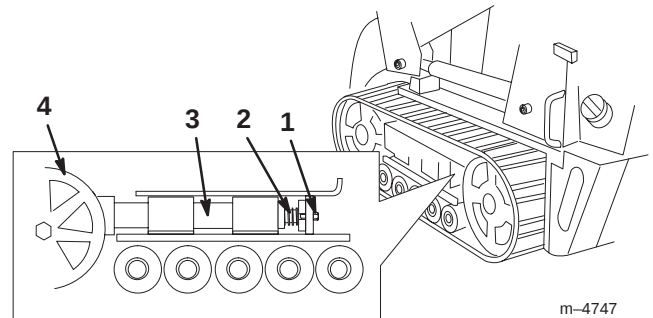

Figure 35
3. Remove the locking bolt and nut (Fig. 35).
5. Align the closest notch in the tension screw to the locking bolt hole and secure the screw with the locking bolt and nut (Fig. 35).
4. Using a 1/2 inch drive socket, release the drive tension by turning the tensioning screw clockwise (Fig. 35 and 36).
4. Using a 1/2 inch drive socket, release the drive tension by turning the tensioning screw clockwise (Fig. 35 and 37).